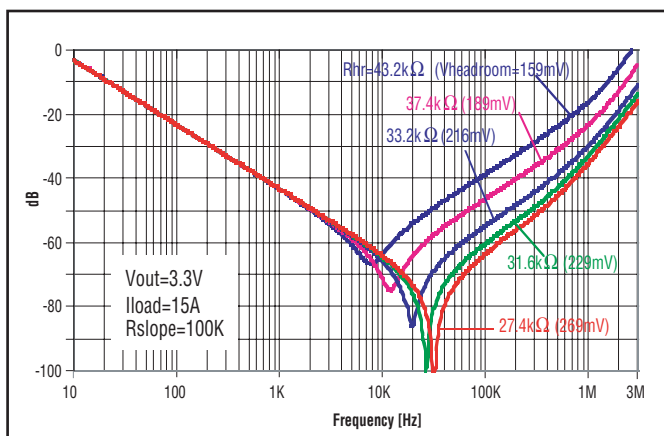

Figure 7 – Attenuation curves without slope adjust.
Figure 7 shows the relationship of the headroom voltage versus attenuation of the QPO-2 for a 3.3 volt output with a 15 amp load. This relationship is relatively constant over the full output voltage rating of the product so this graph can be used for the 0.3V to 5.5V range when selecting the headroom voltage. The value of headroom resistor will be dependent on desired output and headroom voltages. The selection of the final headroom voltage should be based on the maximum expected ripple, desired attenuation, based on the curves in figure 7, and the transient response time of the converter. Formulas for SC current setting resistor, RSC and the RCP clamp setting resistor, are provided in their respective sections. The headroom range indicated in figure 7 shows that increasing the
To ensure sufficient headroom during transient load changes, a greater headroom voltage than what would normally be set based on maximum ripple should be considered. To provide margin to cover the instantaneous drop in the converter output and the line drops, additional headroom will be needed. In the example shown in figure 2 an additional 75mV was included with the headroom voltage value selected from the graph in figure 7 to cover the instantaneous drop in the supply output during the 10 Amp step as explained below.
In Figure 2, a maximum load of 10 Amps allowed for the RHR value to be calculated to provide 375mV of headroom to avoid exceeding 4 Watts. In this example, based on the attenuation graph in Figure 7, 300mV of headroom is the point of diminishing returns so the maximum attenuation would be achieved at the fundamental ripple frequency. To stay within the dynamic range required by the active loop during a transient, a total of 375mV was used in the formula to determine the RHR resistor value. The peak detector will dynamically add 30mV (derived from the 60mV peak to peak input ripple) to the static headroom setting providing the total dynamic headroom of typically 405mV with the detector enabled.
- o No slope adjust, no peak detect, fixed headroom, attenuation vs headroom graph in figure 7 apply